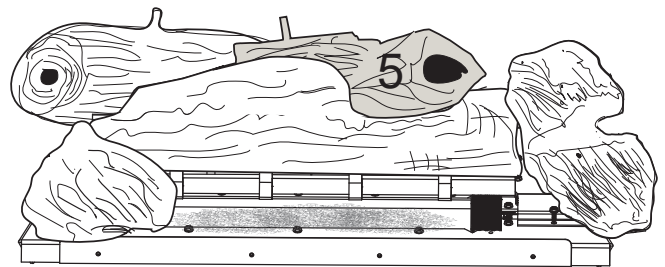

Figure 15 - Log #5 Placement
6. Hold log #5 with wide end away from you. Place log #5 by positioning it over the notch on log #1 and by sliding the wide end toward the back. When in place, the left rear of log #5 should come in contact with log #4 and the left side of the slot on log #1. It should match with log #4. See Figure 15.